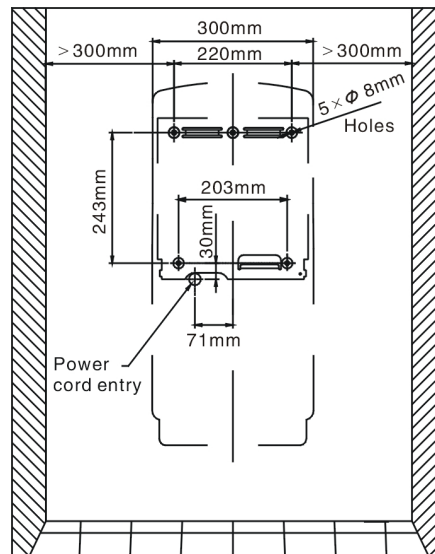

Fig.3
2. Place the template against the wall at the desired height (see RECOMMENDED MOUNTING HEIGHTS) and mark the locations of the 5 mounting holes and entry of the power cord at the cut-out location (see fig.3).